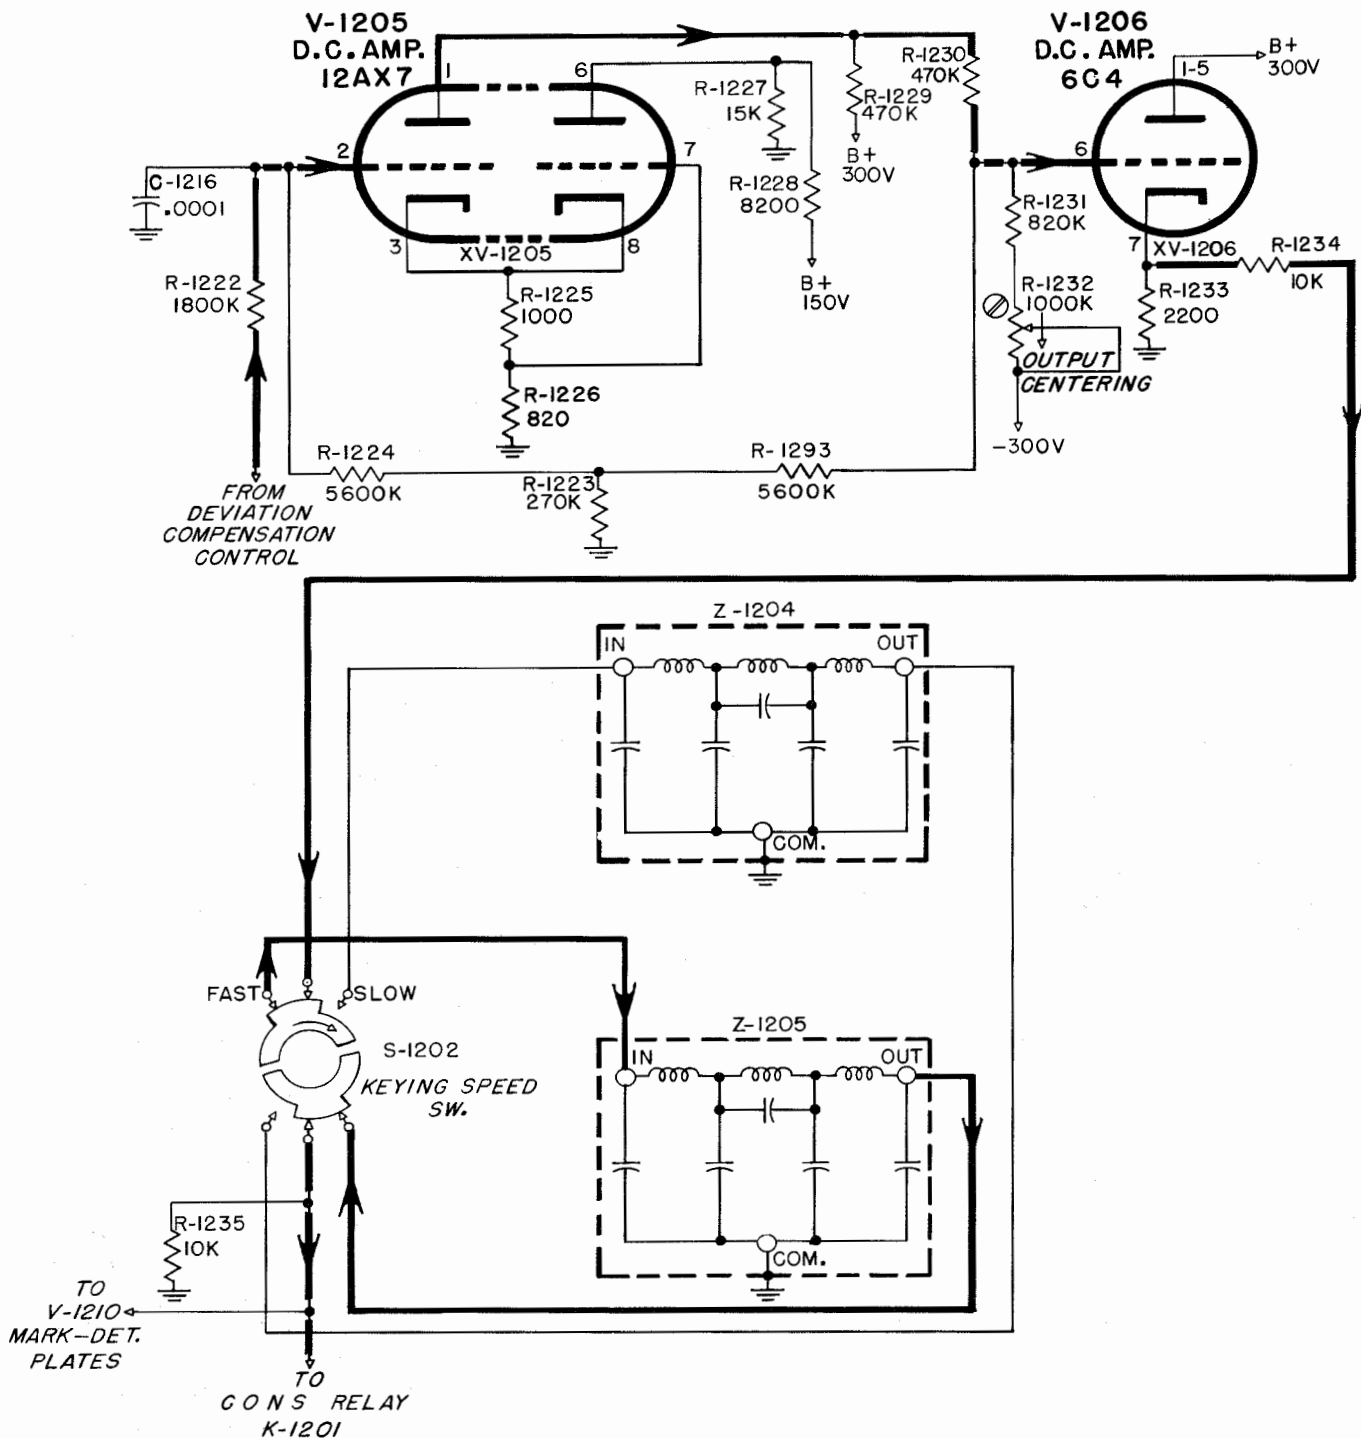

Figure 2-41. D.C. Amplifier Stages V-1205, V-1206, Simplified Schematic Diagram
(3) D.C. AMPLIFIERS V-1205 AND V-1206 (CV-127/FRR-24). (See Figure 2-41).—The discriminator output voltage is connected through the Mark-Polarity switch section S-1201A to the grid of a D.C. Amplifier V-1205. The D.C. Amplifier V-1205 utilizes a type 12AX7 dual triode tube connected in a degenerative circuit that reduces the effect of heater voltage and tube characteristic changes to a minimum. A Deviation Compensation control R-1221 is provided as a means of regulating the discriminator output so that different frequency excursions of the signal frequency can be set to produce approximately plus or minus one-volt change in D.C. voltage on the arm of this control.